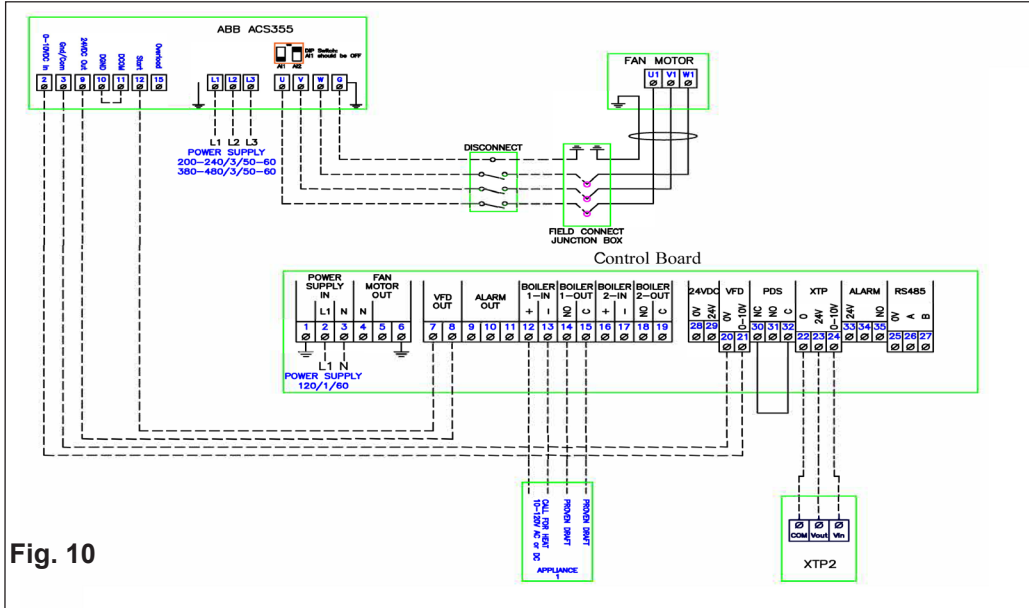

Fig. 10
- ▶ If using a 3-phase fan and VFD, connect the VFD to terminals 20 and 21 as shown in Fig. 10 and 11. **DO NOT** connect the fan directly to the EBC24 control.
Wire the ABB ACS355 series variable frequency drive according to fig. 10.